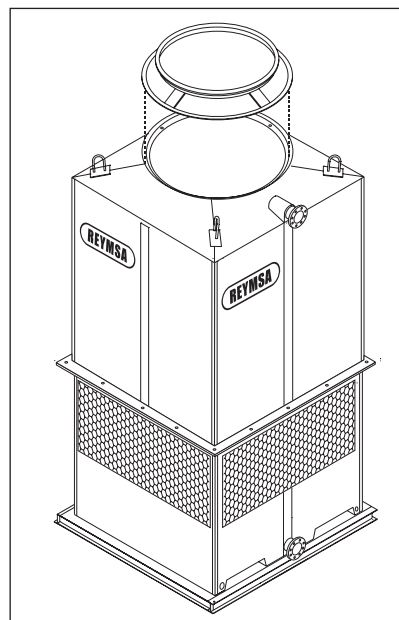
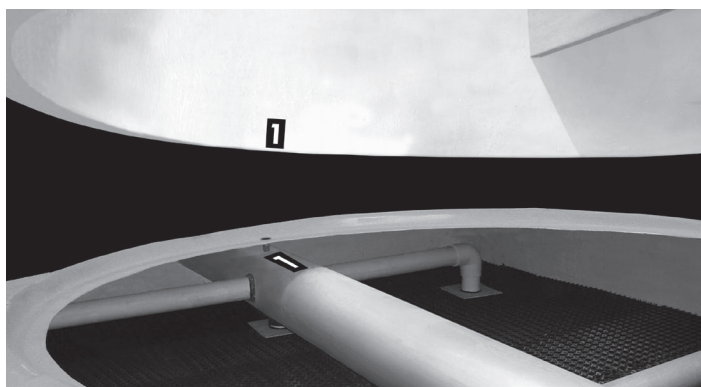

Figure A-93: Fan adaptor installation
Figure A-94: Fan adaptor alignment
- A. Before installing the Fan Duct (see sections A.2, A.3, A.5 for reference), place the Fan Adaptor on the receiving flange located on top of the Tower (see Figure A-93); make sure the bolt holes and the marks inside the Fan adaptor are aligned (Figure A-94). Then secure it using the stainless steel nut and bolt sets supplied by REYMSA.